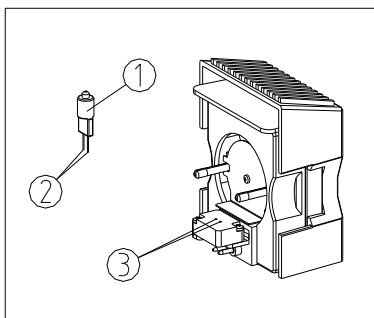

Fig. 3
Hold the bulb ① with clean glove or tissue and insert the pins ② into the receptacles ③ thoroughly. Make sure the bulb is vertical (See Fig. 3).